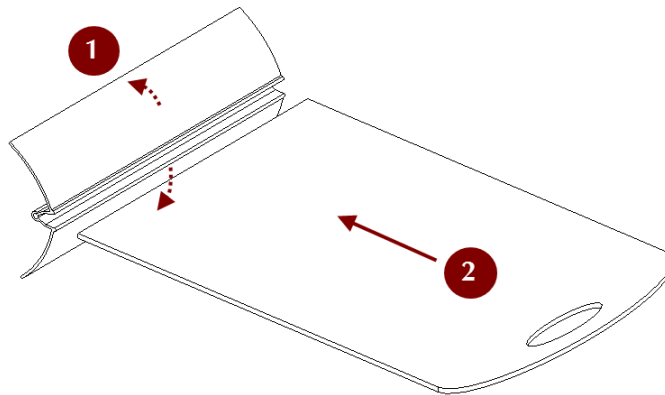

Figure 226: Assembling the rig.
3. Insert the board into the slot, as Figure 226 shows.